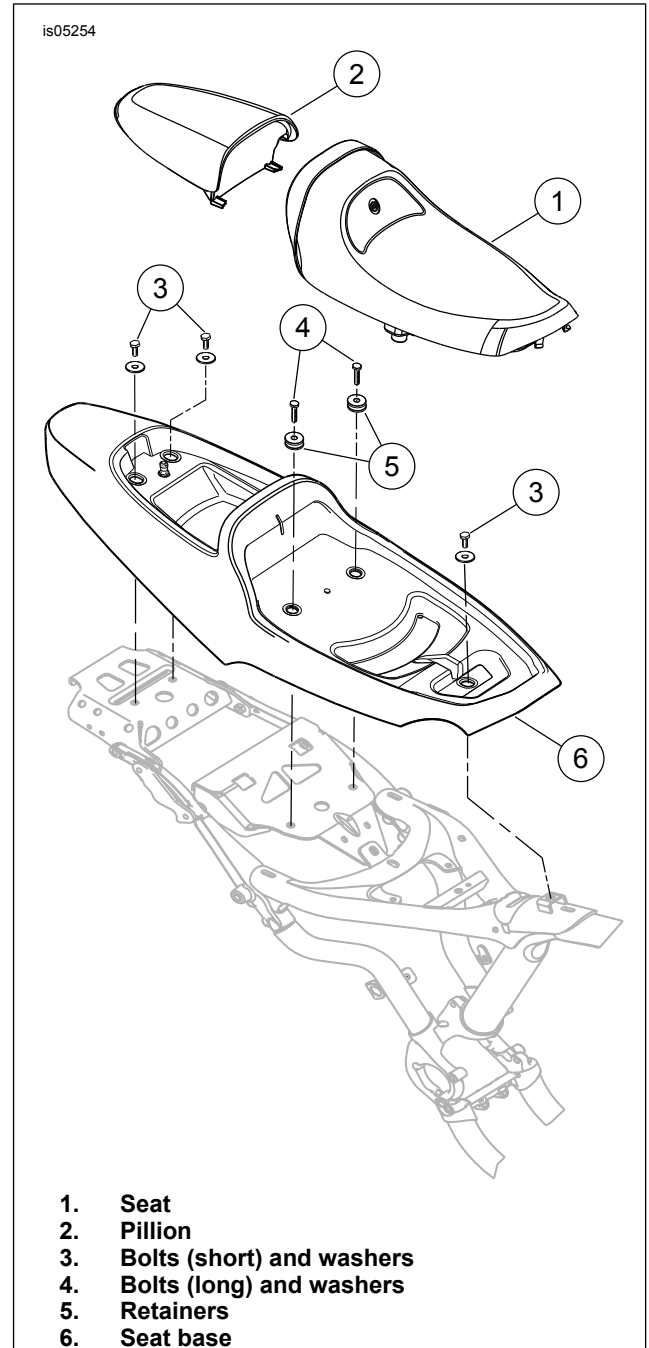
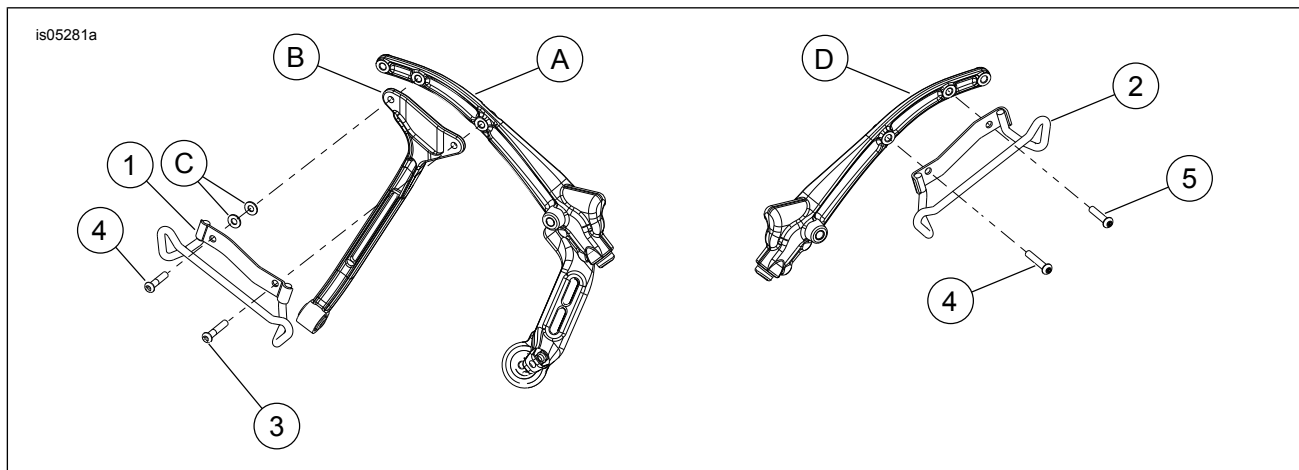

Figure 1. Remove Seat, Pillion and Seat Base
Figure 2. Service Parts: XR1200 Bungee Bars
See Figure 2 and Table 1.
1. See Figure 1. Remove rider's seat (1) and passenger pillion (2).
2. Remove short screws and washers (3) and long screws (4) and retainers (5) and lift seat base (6) from frame.
3. See Figure 2 and Table 1. Remove two screws and washers from the muffler support (B) on the right side frame rail. Save screws in case bungee bar needs to be removed. Washers will be used in next step.
5. Remove the corresponding hardware from the left side frame rail (D). Stack the bungee bar (2) to the rail and install with screws from hardware kit using a 1.75 inch screw (4) on the front and a 1.50 inch screw (5) on the rear. No washers are used on this side. Tighten screws to 20.3–27.1 N·m (15–20 ft-lbs). Loosen screws and then retighten to 31.2–33.9 N·m (23–25 ft-lbs). Save the original hardware should the bungee bar need to be removed.
6. See Figure 1. Install seat base to frame and tighten all screws to 8.1–13.6 N·m (72–120 in-lbs).